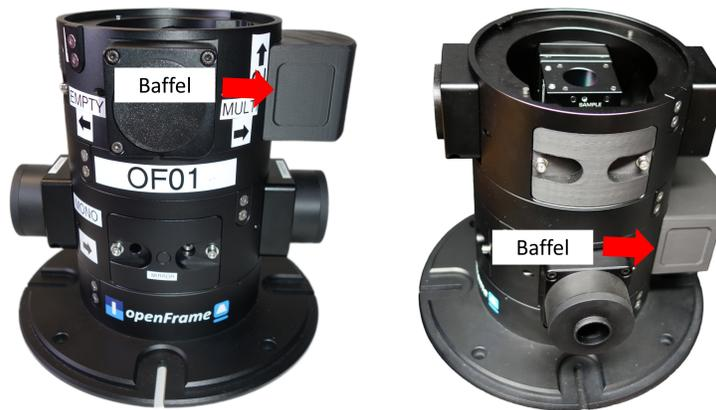

Figure 3: Foundational openFrame mechanical assembly (OF01).
2. Remove baffels C4 and C5 from the foundational assembly (Figure 3).